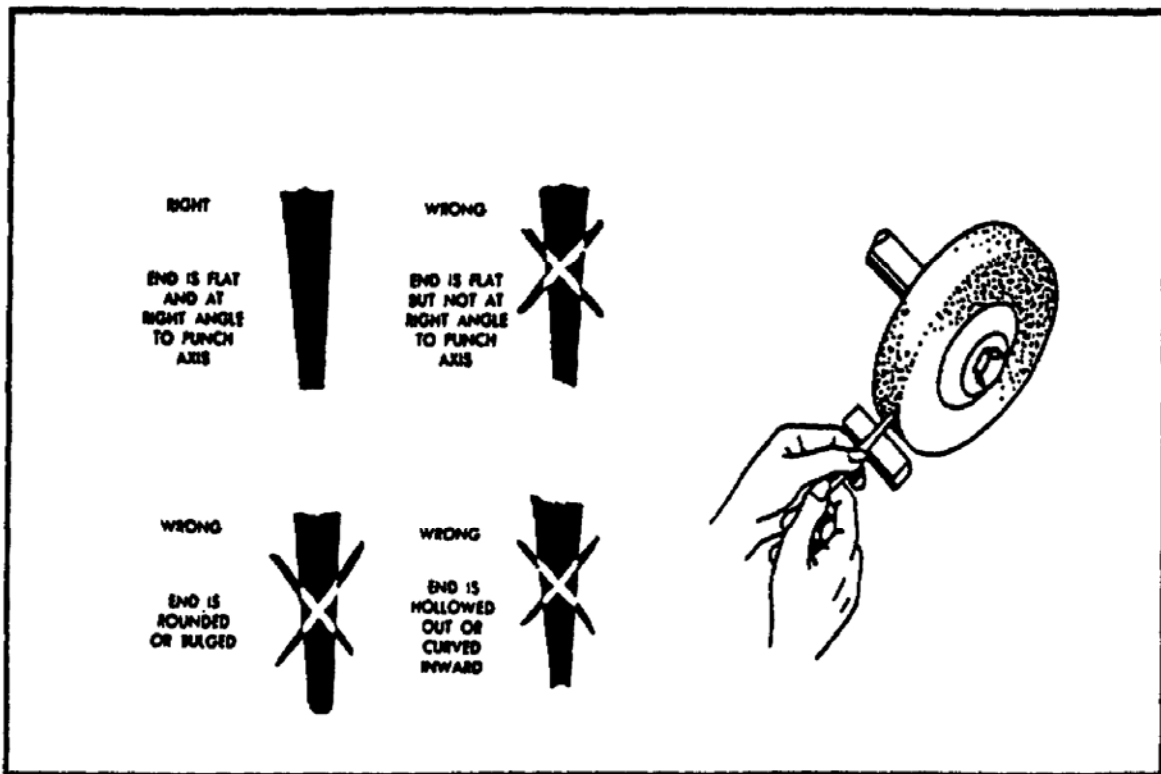

FIGURE 111. GRINDING A FLAT END PUNCH.
(1) *Drift, Drive Pin, and Blacksmith's Flat and Punches.* Grind a drift, drive pin, or blacksmith's punch so that the end is perfectly flat and at right angles to the center line of the punch (figure 111). Grind other flat end punches in a similar way.